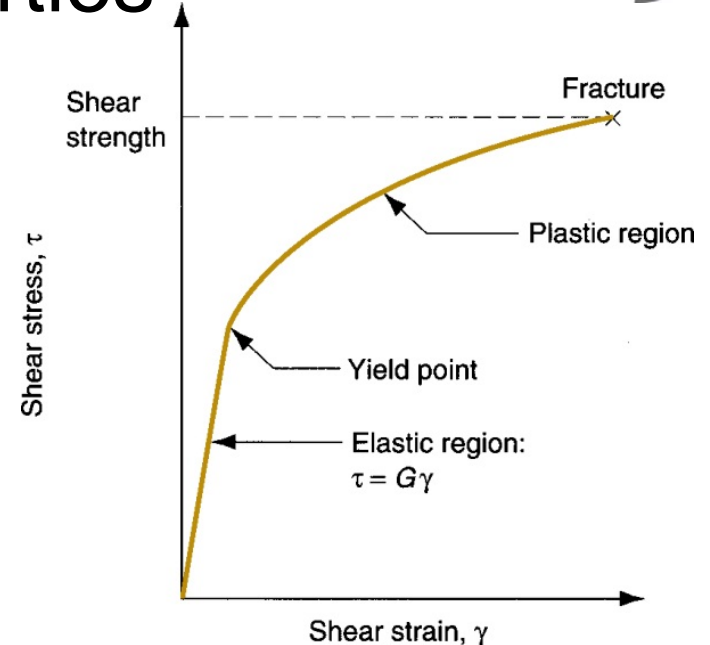

Fig. 19: A typical shear stress-strain curve from a torsion test.
- A typical shear stress-strain curve is shown in Fig. 19.